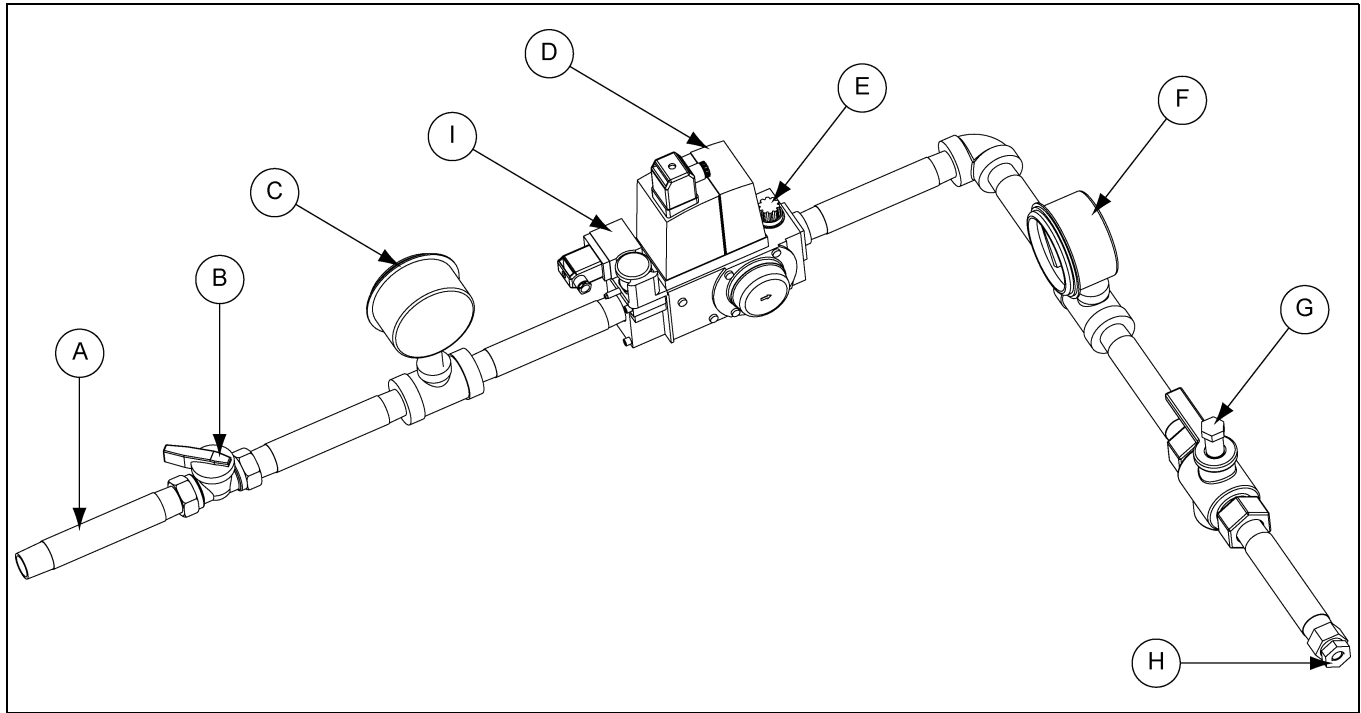

Figure 3D
3. Pressure set with pilot flow adjuster on pilot valve (See Figure 3D on Page 24) read at pilot gauge. (See Figure 3D on Page 24).
- c. Close pilot line valve. (See Figure 3D on Page 24.)